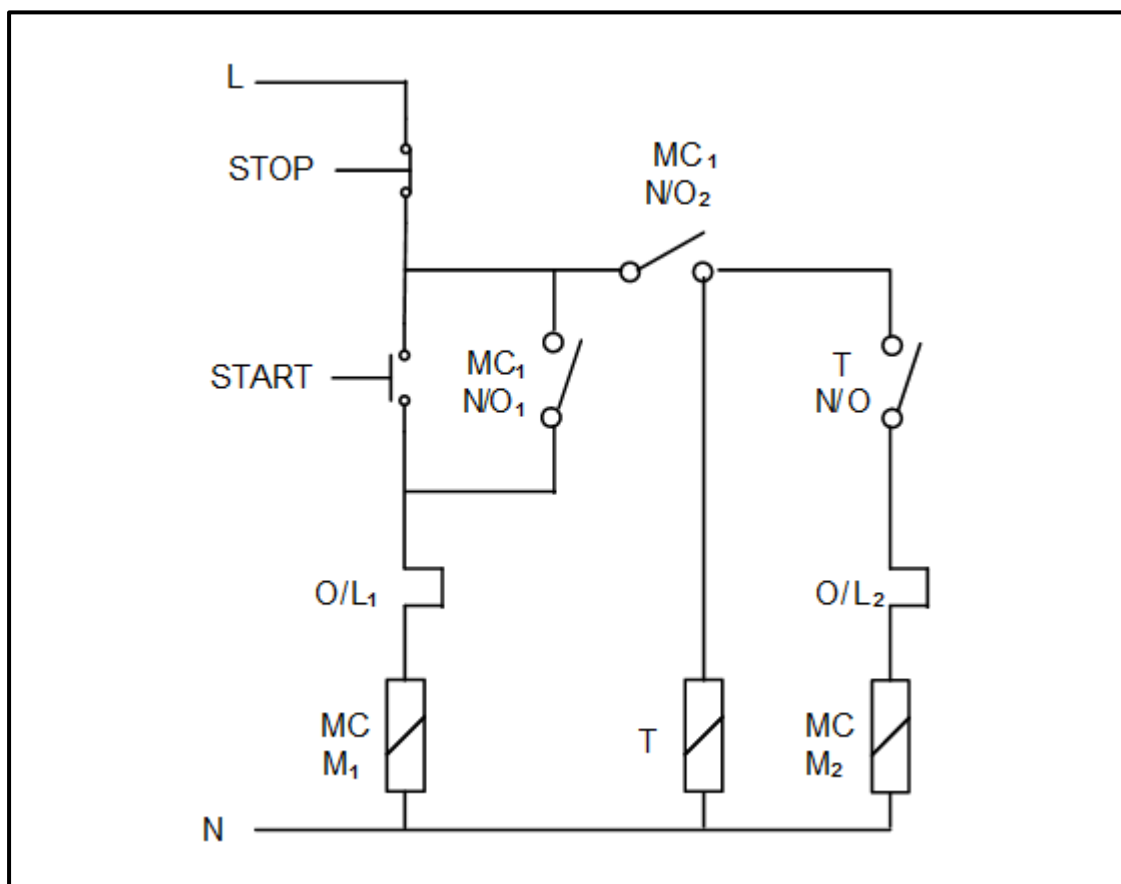

FIGURE 4.7: CONTROL CIRCUIT OF AN AUTOMATIC SEQUENCE STARTER
- 4.7 FIGURE 4.7 below represents the control circuit of an automatic sequence starter.